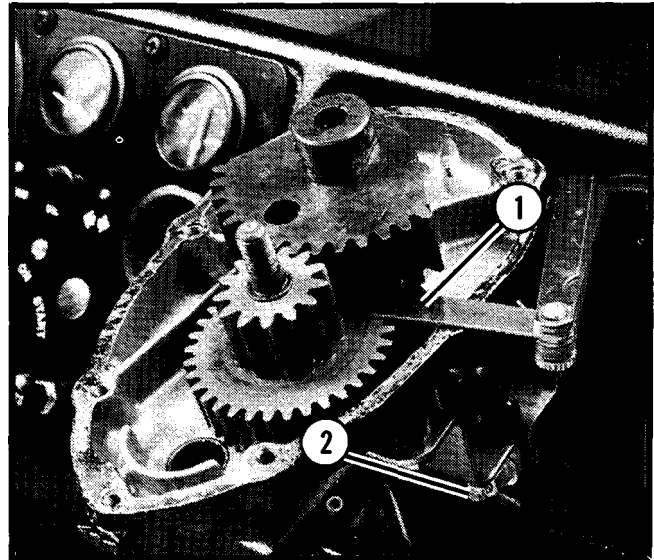

Figure 4.
6. Apply Loctite 271 to fork threads. Install special nut and tighten to 40 to 50 lbs. ft. (54 to 70 N·m). See Figure 4.
9. Adjust alignment of the gear by moving the lower housing. Adjust brackets mounting the lower housing to the fork tube to obtain a minimum clearance of 1/16 inch between the bottom of the driven gear and the top of the idler gear. See Figure 4.